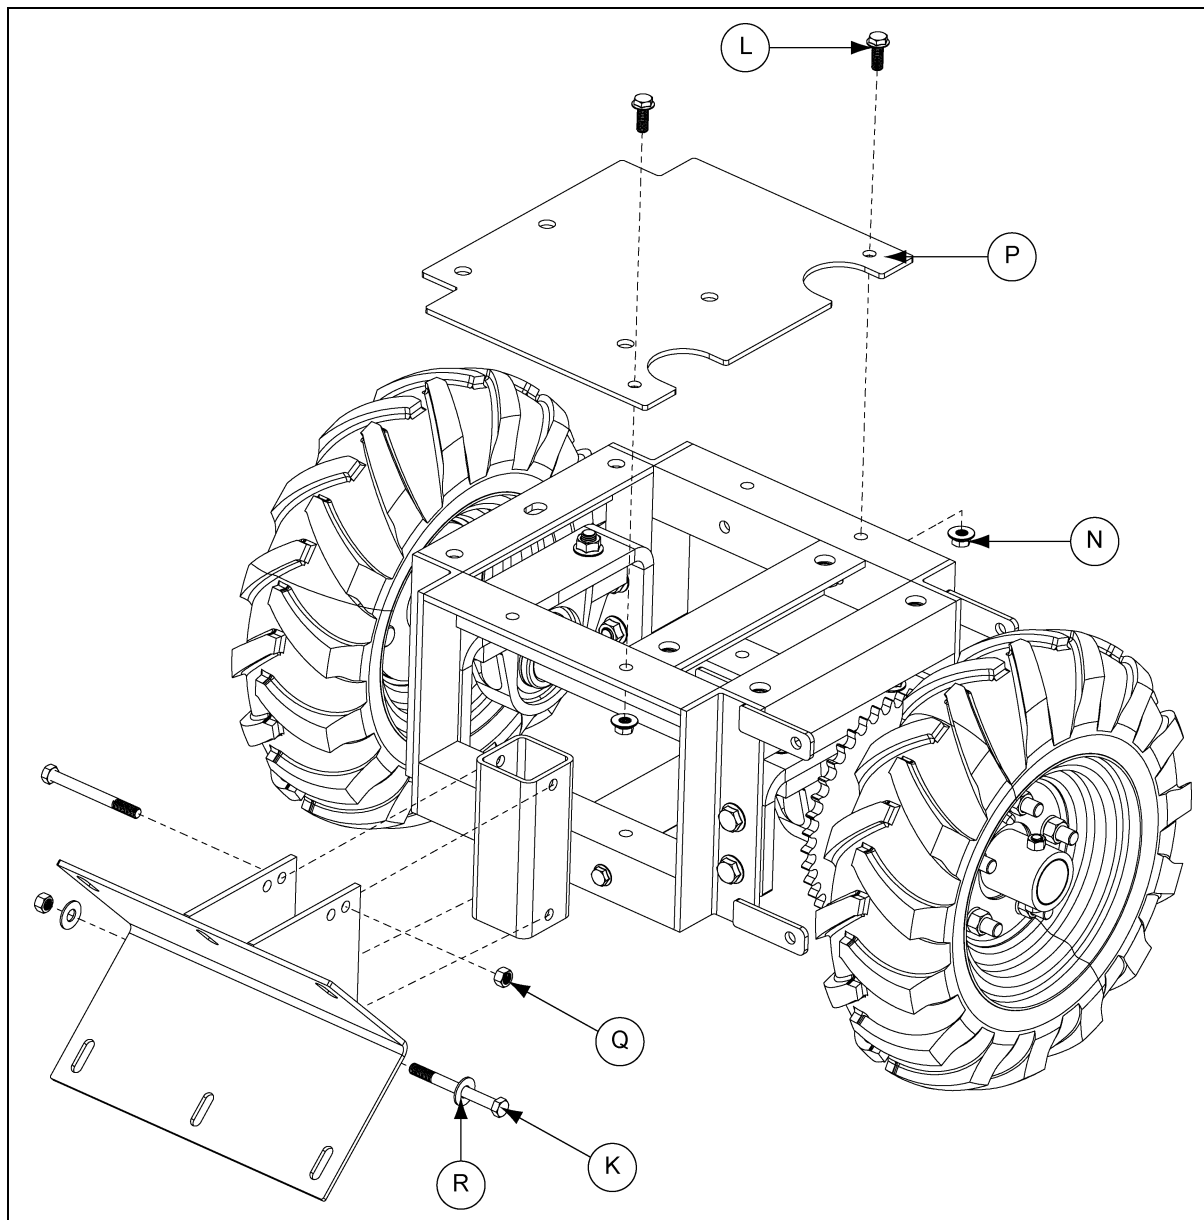

Figure 4S
9. Bolt the shield bracket to the front of the tractor frame using two (2) 3/8"-16 x 3-1/2" hex head cap screws (K), two (2) flat washers (R) (only on the bottom slot of the bracket) and hex nuts (Q).
10. Attach the weight plate (P) to the tractor frame using two (2) 3/8"-16 x 1" flange bolts (L) and serrated flange nuts (N). (See Figure 4S.)